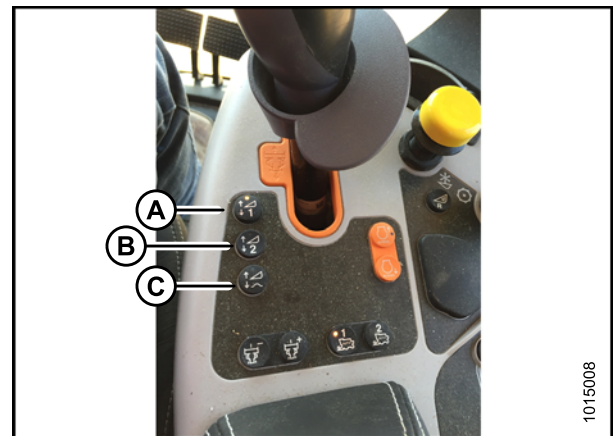

Figure 3.403: New Holland Combine Controls
5. Select one of the auto height set point buttons shown in Figure 3.403: *New Holland Combine Controls, page 233*.